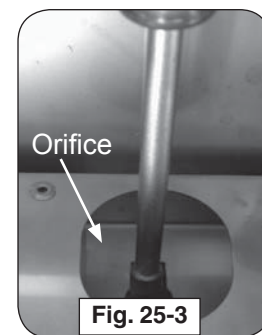

Fig. 25-3
4. Use a  $\frac{3}{8}$ " hex nut driver to remove the exposed orifice (Fig. 25-3). Check orifice. If needed, replace it with the correct orifice for the new gas.